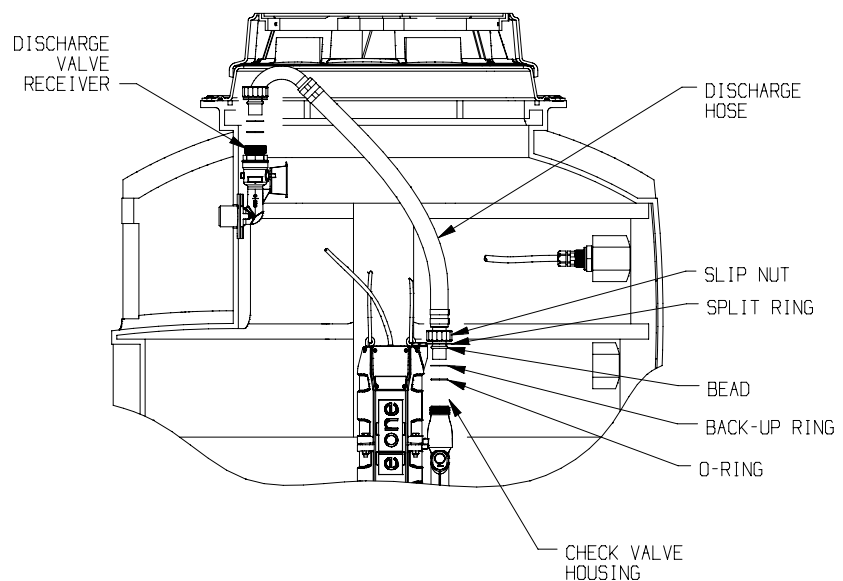

Fig. 9 - Grinder Pump Installation
13. Pump Installation (Figure 9)
3. Slide the straight, stainless steel end of the discharge hose assembly into the top of the check valve assembly on the grinder pump until the raised bead contacts the check valve housing. Both the O-ring and back-up ring should slide into the bore of the check valve housing. The hose should be oriented as shown in Figure 9 to support alignment with the station discharge valve.